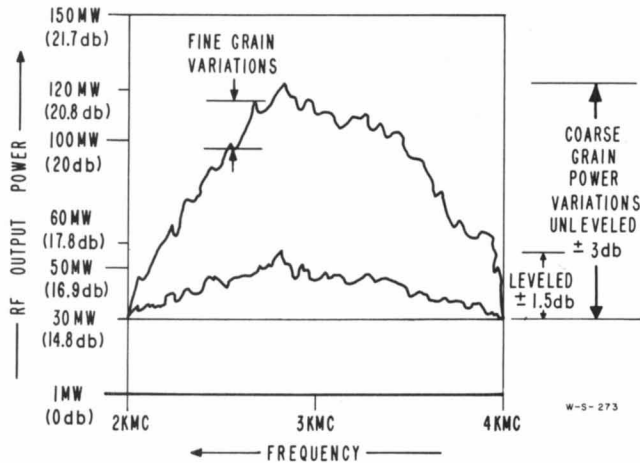

Figure 3-3. RF Leveler Detected Waveform (Leveled and Unleveled Positions)
A. GENERAL. The leveler circuit is an internal device which reduces power variations across the band to  $\pm 1.5$  db or less. Leveling action is accomplished by programming the anode voltage to compensate for the coarse grain power variation characteristics (figure 3-3) of the bwo tube.